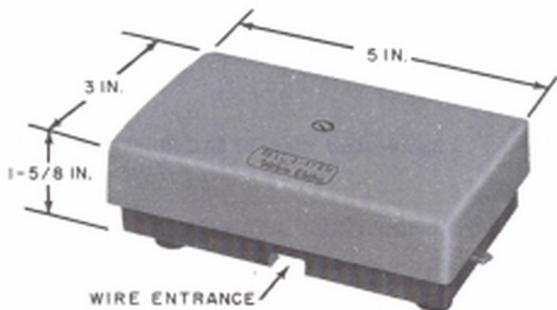

Fig. 1—E1-Type Ringer, External View
1.03 The E1-type ringer (Fig. 1) may be used on the following services:
3.03 The inside wire can enter the ringer from the back, bottom, or either end (Fig. 1, 2, and 3).